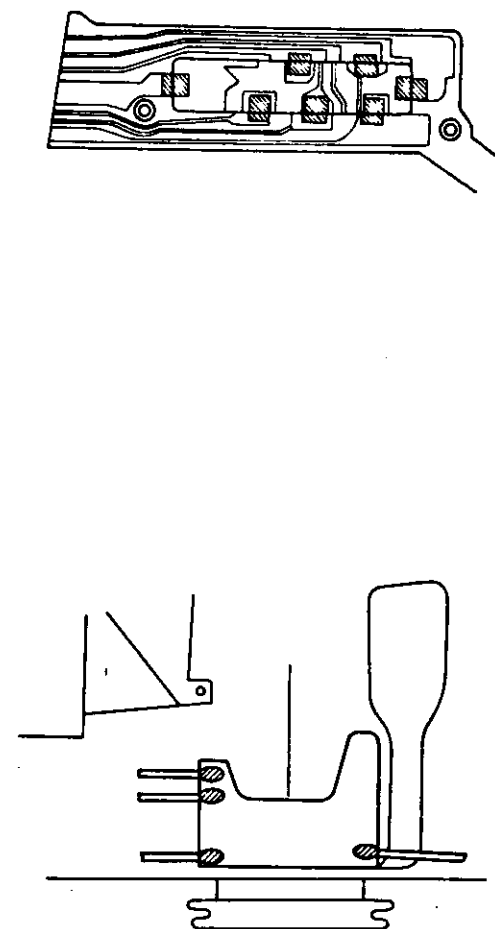

Fig. 34
- 17) Solder four **LEAD WIRES** on the synchro base plate as shown in Fig. 34.